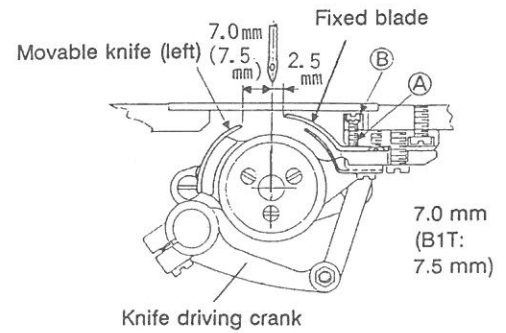
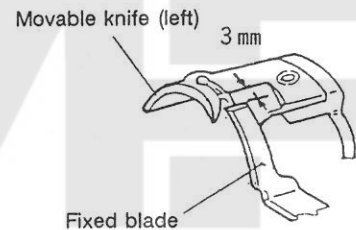

Fig. 12
Fig. 14
- (1) Positions of movable knife (left) and fixed blade (Fig. 12)
① Fig. 12 shows the standard state.
- (3) Adjustment of knife engagement pressure
① The standard knife engaging pressure is obtained when the movable knife (left) and fixed blade start making contact with each other at the position shown in Fig. 14.
② When cutting action is poor especially because of thick thread, a slight increase of the engagement pressure produces an effect.
③ To adjust the engagement pressure, loosen the lock nut (B) in Fig. 12 and adjust with the adjust screw (A).